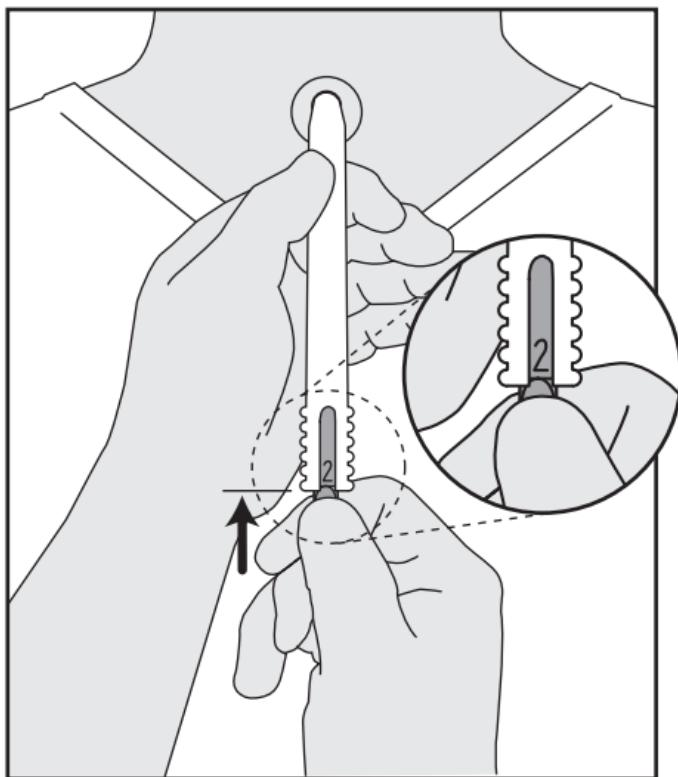

Figure 9
3. **Insert the prosthesis** by holding the loading tube stable with one hand and push the inserter forward with your other hand until mark line 2 is level with the rim of the loading tube (Fig.9).